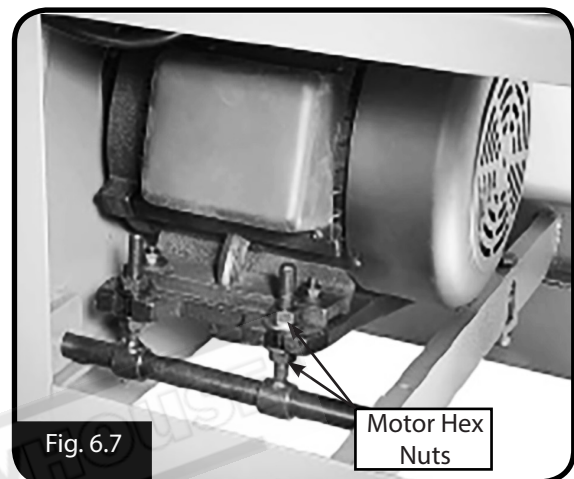

Fig. 6.7
5. To adjust the V-belt tension, loosen the top motor mount hex nuts (Fig. 6.7), then adjust the bottom hex nuts to raise or lower the motor.